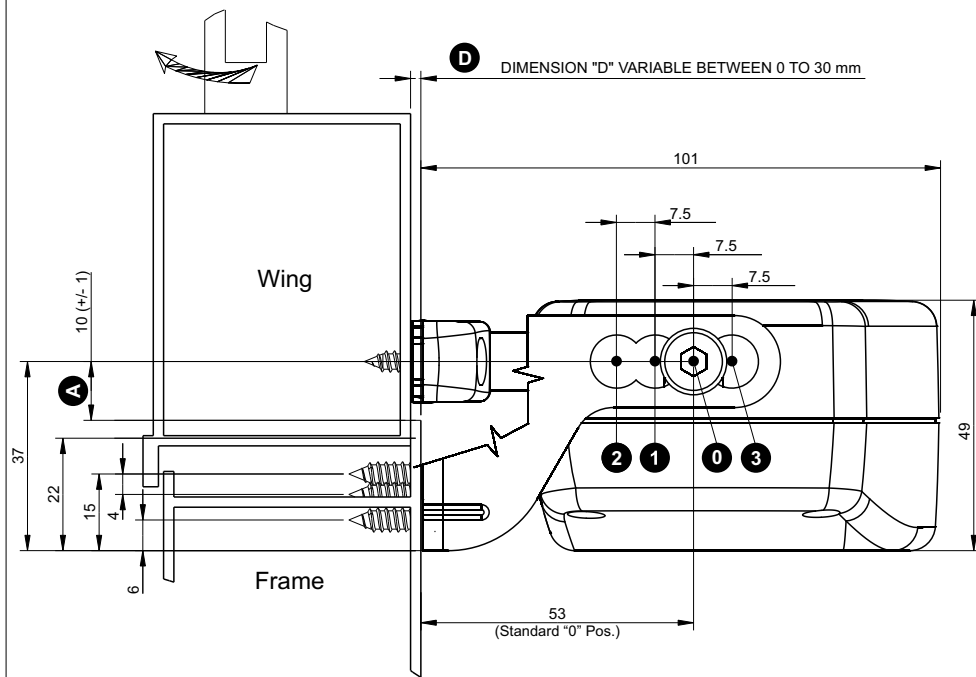
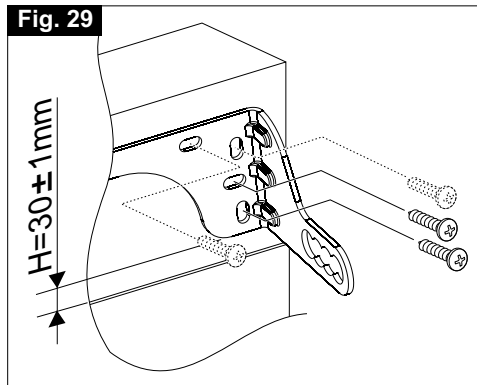

Fig. 7b Dimensions in mm
Fig. 30
VERIFY THAT THE DISTANCE "D" BETWEEN THE WINDOW FRAME (ON WHICH THE FIXING OF THE ACTUATOR IS FORESEEN) AND THE WINDOW FRAME WING (ON WHICH THE BRACKET FIXING IS FORESEEN) IS INCLUDED WITHIN 0 mm AND 30 mm, FOR THE TOP HUNG ASSEMBLY (SEE FIG. 7a), AND WITHIN 0 mm AND 22 mm FOR THE BOTTOM HUNG ASSEMBLY (SEE FIG. 7b).
- 5) **Fig. 30-** Align the bottom hung bracket with the centre line of the window using as reference the central hole of the fastening screws and position the bottom hung bracket at **E** (**see Fig. 7b**), then mark the drilling points;
- 7) **Fig.33-** Tighten with the two standard supplied screws (**Ref. 1**) the actuator on the bracket connecting it to the window frame in the position "0" (**see Fig. 7b**) and unscrew the chain adjustment end screw;
- 8) **Fig. 34-** Select the position of the actuator with reference to the bracket connecting it to the window frame (**see Fig. 7b**) and connect the chain end to the bottom hung bracket;